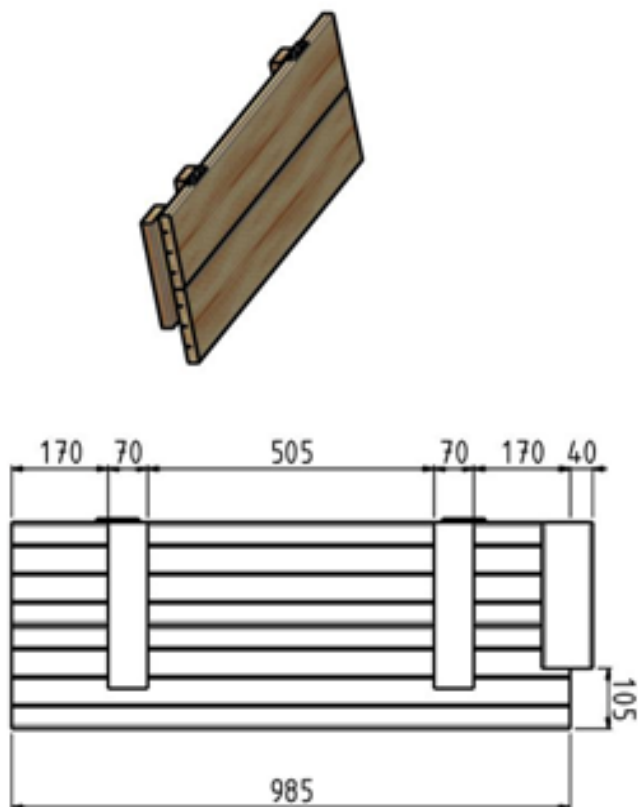
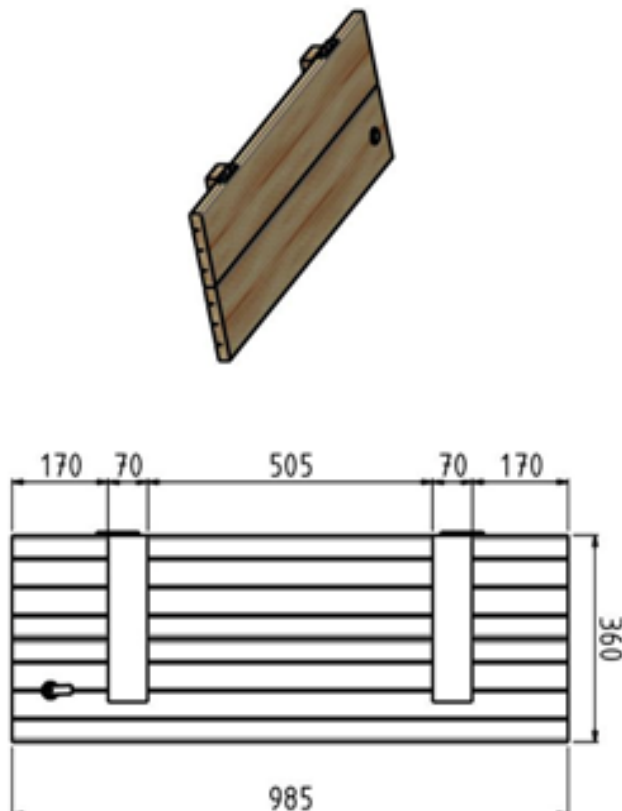

Figure 25 – Assembling the duckboarding module with blocking cleat
Figure 26 – Assembling the duckboarding module with lock
The duckboarding acts as the box lid. Assemble the duckboarding modules as shown in *Figure 25* and *Figure 26* (view from below). Leave a gap of 2 mm between the slats. One will be fitted with the blocking cleat, the other with the lock.
- Fasten the strike plate to the vertical surface of the closest reinforcing brace using 2 A2 SS hinge screws 6 × 20 (bag D) (*Figure 26*), approximately 20 mm from the top of the supporting brace, such that the cam is positioned under the lip of the strike plate when the hatch is locked